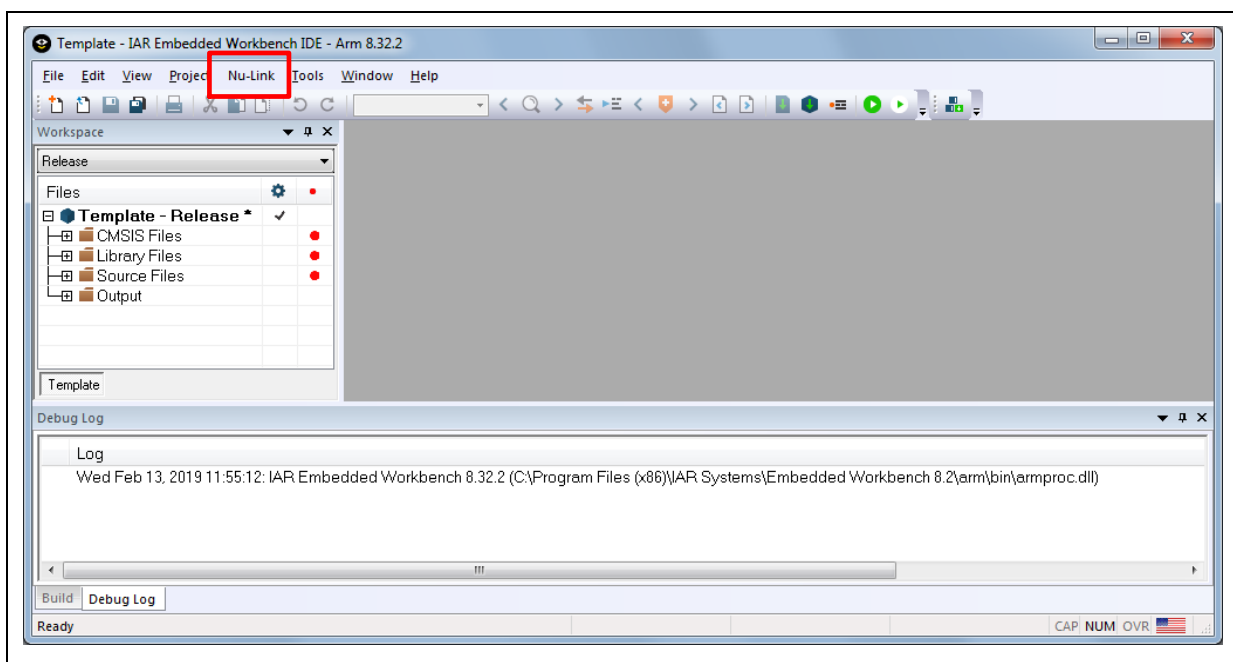

Figure 3-15 IAR EWARM Window
2. Make sure the toolbar contain "Nu-Link" item as shown in Figure 3-15.